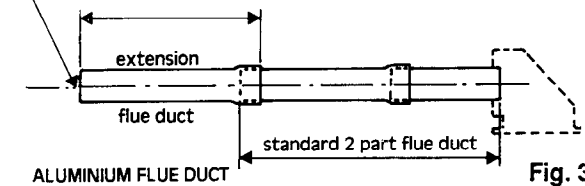

Fig. 3b
- Measure wall thickness (T).
- Add 74 mm, this will give required length (L).
- Mark plastic air duct for length (L) and cut off surplus (from plain end).
N.B. If extension sections are used ensure these are firmly pushed together, see figs. 3b and 3c and a fall of 5 mm per metre length should be provided (see section 4.3).